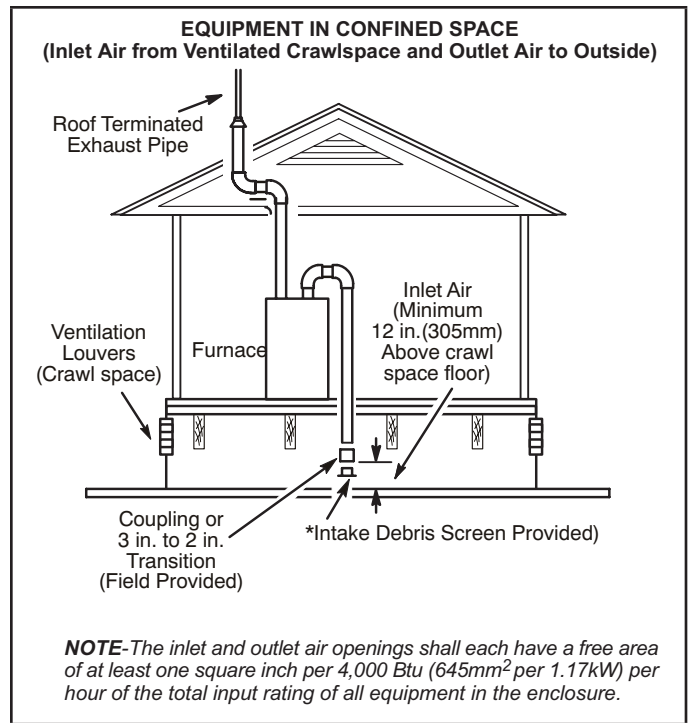

FIGURE 24
- 2 - If intake air is drawn from a ventilated crawlspace (FIGURE 24) or ventilated attic (FIGURE 25) the exhaust vent length must not exceed those listed in TABLE 20. If 3" diameter pipe is used, reduce to 2" diameter pipe to accommodate the debris screen.